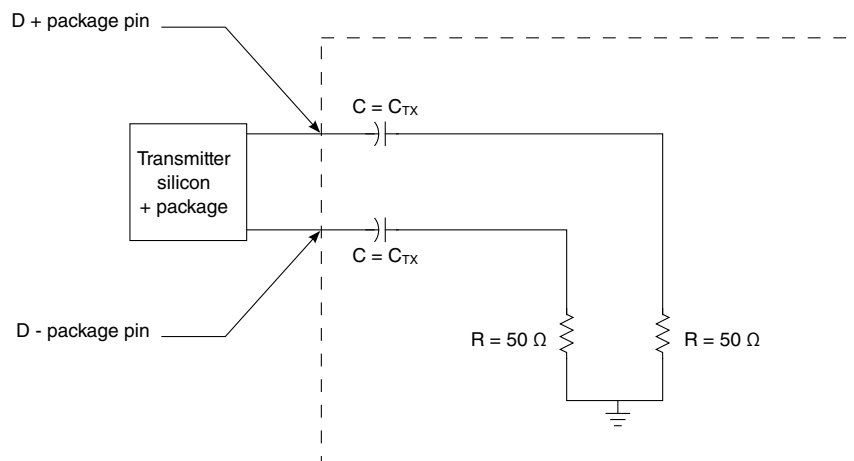

Figure 70. Test/measurement load
Notes: 1. Specified at the measurement point into a timing and voltage test load as shown in Figure 70 and measured over any 250 consecutive transmitter UIs. 2. A T _{TX-EYE} = 0.75 UI provides for a total sum of deterministic and random jitter budget of T _{TX-JITTER-MAX} = 0.25 UI for the transmitter collected over any 250 consecutive transmitter UIs. The T _{TX-EYE-MEDIAN-to-MAX-JITTER} median is less than half of the total transmitter jitter budget collected over any 250 consecutive transmitter UIs. It must be noted that the median is not the same as the mean. The jitter median describes the point in time where the number of jitter points on either side is approximately equal as opposed to the averaged time value. 3. The chip's SerDes transmitter does not have C _{TX} built-in. An external AC coupling capacitor is required. 4. For recommended operating conditions, see Table 4 .
Notes: 1. Specified at the measurement point into a timing and voltage test load as shown in Figure 70 and measured over any 250 consecutive transmitter UIs.
1. Specified at the measurement point and measured over any 250 consecutive UIs. The test load in Figure 70 must be used as the receiver device when taking measurements. If the clocks to the receiver and transmitter are not derived from the same reference clock, the transmitter UI recovered from 3500 consecutive UI must be used as a reference for the eye diagram.